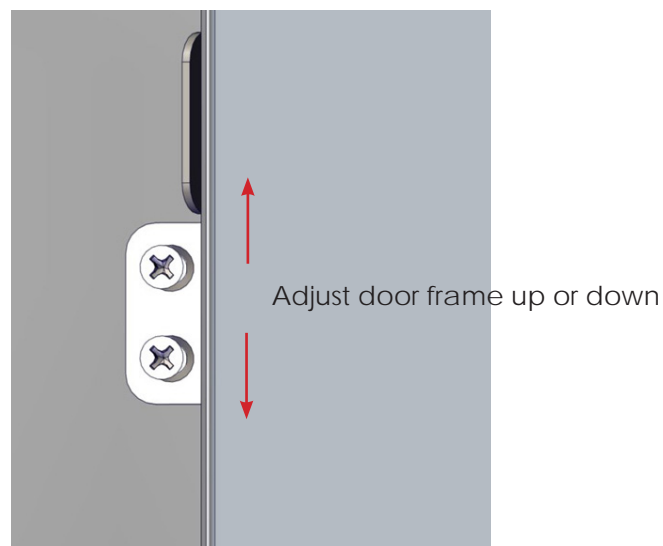

Fig. 26: Adjust Door up or Down
2. Move the door up or down (up to 1/4" in either direction) to align one door frame with the other (Fig. 26). Use a level to ensure the door frames align properly.